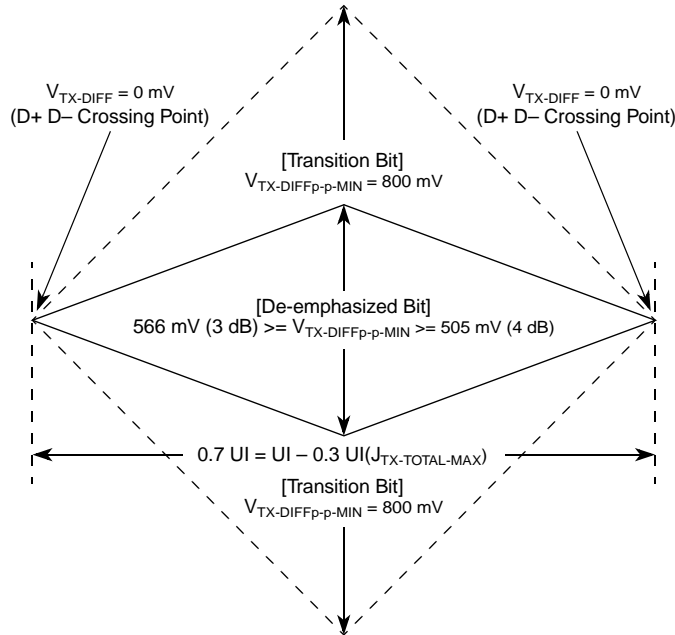
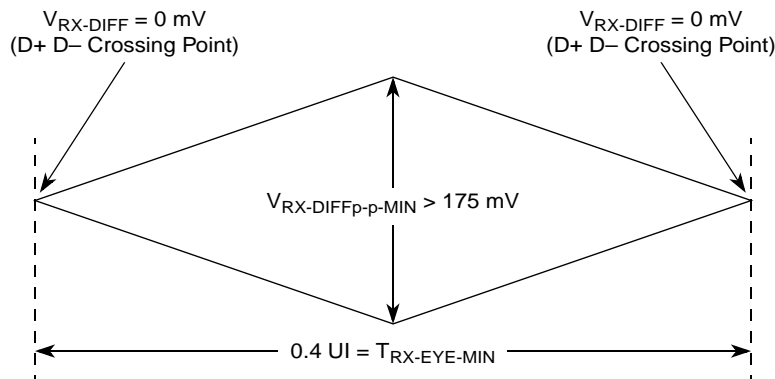
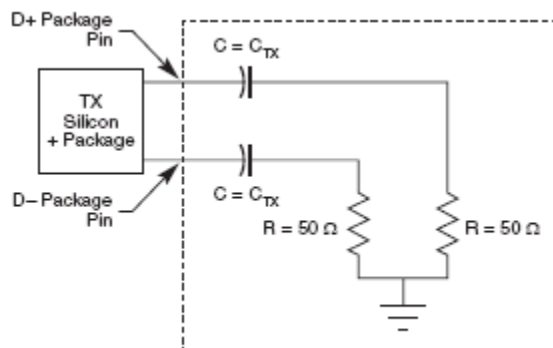

Figure 49. Minimum Transmitter Timing and Voltage Output Compliance Specifications
Figure 50. Minimum Receiver Eye Timing and Voltage Compliance Specification
Figure 51. Compliance Test/Masurement Load
2. Specified at the measurement point into a timing and voltage compliance test load as shown in Figure 51 and measured over any 250 consecutive TX UIs. (Also refer to the transmitter compliance eye diagram shown in Figure 49.)
4. The transmitter input impedance shall result in a differential return loss greater than or equal to 12 dB and a common mode return loss greater than or equal to 6 dB over a frequency range of 50 MHz to 1.25 GHz. This input impedance requirement applies to all valid input levels. The reference impedance for return loss measurements is 50 Ω to ground for both the D+ and D- line (that is, as measured by a vector network analyzer with 50- Ω probes, see Figure 51). Note that the series capacitors, C_{TX} , is optional for the return loss measurement.
5. Measured between 20%–80% at transmitter package pins into a test load as shown in Figure 51 for both V_{TX-D+} and V_{TX-D-} .
The TX eye diagram in Figure 49 is specified using the passive compliance/test measurement load (see Figure 51) in place of any real PCI Express interconnect + RX component. There are two eye diagrams that must be met for the transmitter. Both diagrams must be aligned in time using the jitter median to locate the center of the eye diagram. The different eye diagrams differ in voltage depending on whether it is a transition bit or a de-emphasized bit. The exact reduced voltage level of the de-emphasized bit is always relative to the transition bit.
- Specified at the measurement point and measured over any 250 consecutive UIs. The test load in Figure 51 should be used as the RX device when taking measurements (also refer to the receiver compliance eye diagram shown in Figure 50). If the clocks to the RX and TX are not derived from the same reference clock, the TX UI recovered from 3500 consecutive UI must be used as a reference for the eye diagram.
- The receiver input impedance shall result in a differential return loss greater than or equal to 15 dB with the D+ line biased to 300 mV and the D- line biased to -300 mV and a common mode return loss greater than or equal to 6 dB (no bias required) over a frequency range of 50 MHz to 1.25 GHz. This input impedance requirement applies to all valid input levels. The reference impedance for return loss measurements for is 50 Ω to ground for both the D+ and D- line (that is, as measured by a vector network analyzer with 50- Ω probes, see Figure 51). Note that the series capacitors, C_{TX} , is optional for the return loss measurement.
The RX eye diagram in Figure 50 is specified using the passive compliance/test measurement load (see Figure 51) in place of any real PCI Express RX component. In general, the minimum receiver eye diagram measured with the compliance/test measurement load (see Figure 51) is larger than the minimum receiver eye diagram measured over a range of systems at the input receiver of any real PCI Express component. The degraded eye diagram at the input Receiver is due to traces internal to the package as well as silicon parasitic characteristics which cause the real PCI Express component to vary in impedance from the compliance/test measurement load. The input receiver eye diagram is implementation specific and is not specified. RX component designer should provide additional margin to adequately compensate for the degraded minimum Receiver eye diagram (shown in Figure 50) expected at the input receiver based on an adequate combination of system simulations and the return loss measured looking into the RX package and silicon. The RX eye diagram must be aligned in time using the jitter median to locate the center of the eye diagram.
The reference impedance for return loss measurements is 50 Ω to ground for both the D+ and D- line (that is, as measured by a Vector Network Analyzer with 50 Ω probes—see Figure 51). Note that the series capacitors, $C_{PEACCTX}$, are optional for the return loss measurement.
The AC timing and voltage parameters must be verified at the measurement point, as specified within 0.2 inches of the package pins, into a test/measurement load shown in Figure 51.